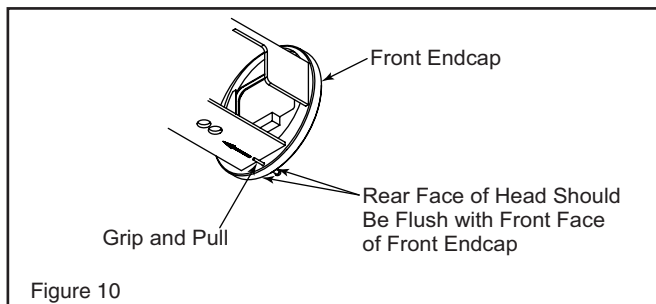

Figure 10
4. Grip the pull seal's long end from the back of the front endcap. Steadily pull the long end until the head of the pull seal is flat against the front of the endcap (Figure 10).